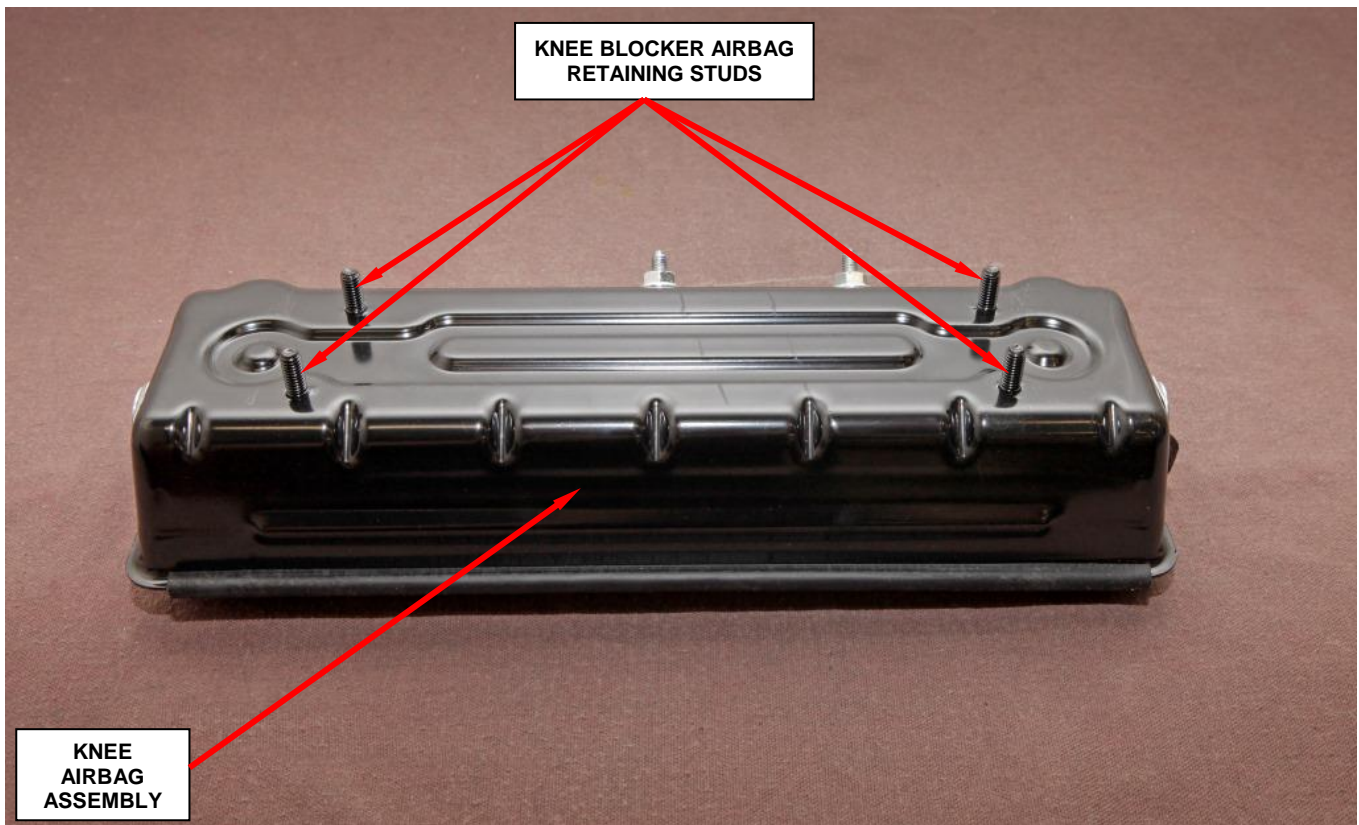

Figure 3 – Knee Airbag Retaining Studs (Located on the Top of the Airbag Housing)
15. Install and tighten the four new nuts that secure the mounting studs of the knee airbag unit to the lower reinforcement of the instrument panel structural support (Figure 3). Tighten the retaining nuts to 80 in. lbs. (9 N·m).